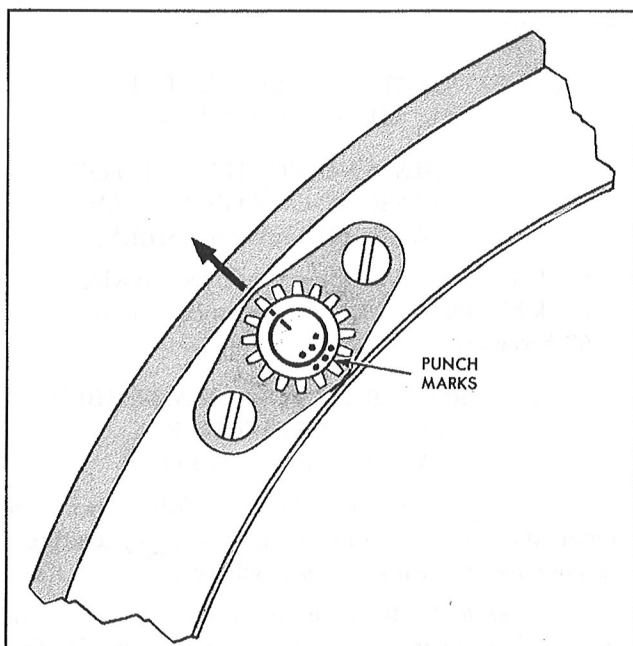
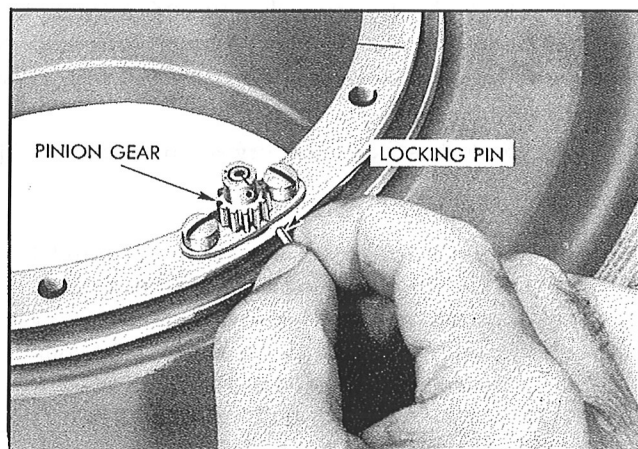

Figure 188—Installation of Control Screw Pinions
Figure 189—Installation of Pinion Gear Pins
e. Place the pinion gears on the proper control screws. Both the pinions and the screws have identification numbers. Turn the pinion gears on the screws so that the scribed mark on the end of the screw coincides with the mark on the pinion, as shown in Figure 188. Install the pinion gear pins through the gears and the control screws. See Figure 189.
gear, the scribed mark on the end of the control screw and pinion should point outwards at right angles to the regulator ring, as shown in Figure 188. If the scribed mark points in any other direction, the control ring must be removed and the control screw which is incorrectly set must be re-engaged in the control ring hole on a different thread. There are three separate threads on the control screws, making it possible to correctly set the screw with relation to the control ring.